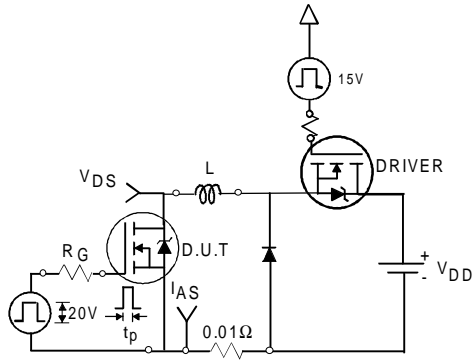

Fig 12a. Unclamped Inductive Test Circuit
3. Equation below based on circuit and waveforms shown in Figures 12a, 12b.
- ③ $I_{SD} \leq 101\text{A}$, $di/dt \leq 210\text{A}/\mu\text{s}$, $V_{DD} \leq V_{(BR)DSS}$, $T_J \leq 175^\circ\text{C}$.
- ④ Pulse width $\leq 400\mu\text{s}$; duty cycle $\leq 2\%$.
- ⑤ C_{OSS} eff. is a fixed capacitance that gives the same charging time as C_{OSS} while V_{DS} is rising from 0 to 80% V_{DSS} .
- ⑥ Calculated continuous current based on maximum allowable junction temperature. Package limitation current is 75A.
- ⑦ Limited by T_{Jmax} , see Fig.12a, 12b, 15, 16 for typical repetitive avalanche performance.
- ⑧ This is applied to D²Pak, when mounted on 1" square PCB (FR-4 or G-10 Material). For recommended footprint and soldering techniques refer to application note #AN-994.